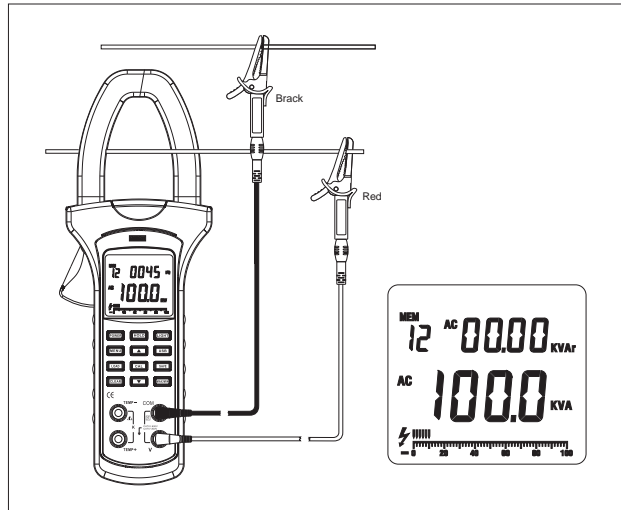

Figure 7
D. Apparent Power (main display) + Reactive Power (secondary display) Measurement (see figure 7)
The Model UT231 digital power clamp meter can measure single phase power and power factor. The power of three phases four wires system can use single phase power measurement method to measure, see figure 7.